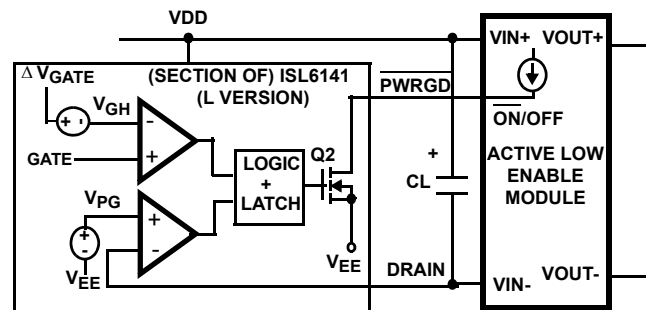

FIGURE 30. ACTIVE LOW ENABLE MODULE
**ISL6141** (L version; Figure 30): Under normal conditions ( $DRAIN - V_{EE} < V_{PG}$ , and  $\Delta V_{GATE} - V_{GATE} < V_{GH}$ ) the Q2 DMOS will turn on, pulling  $\overline{PWRGD}$  low, enabling the module.